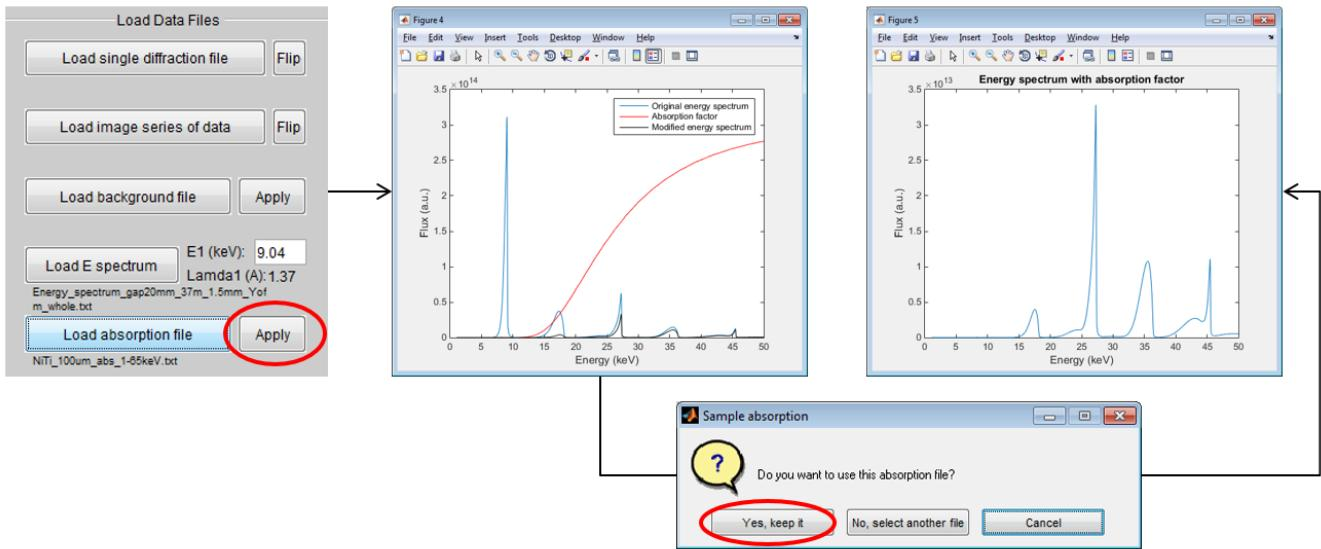

Figure 3.4: Apply sample absorption to modify the energy spectrum
- 10) Click “Apply” button next to the “Load absorption file” button to apply modification of the energy spectrum. A plot window with the original energy spectrum, the transmission curve, and the modified energy spectrum will pop up, together with a message window asking whether to keep the change or select another absorption file. If choose “Yes, keep it”, a window showing only the modified energy spectrum will pop up. Also, the name of the absorption file will appear in the GUI control panel, as shown in Fig. 3.4. If choose “No, select another file”, then choose another one. Choose “Cancel” if do not want to do anything.